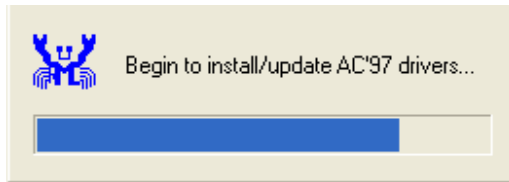

Figure 6-23: AC'97 Driver Installation
Step 10: The driver installation begins. See Figure 6-23.